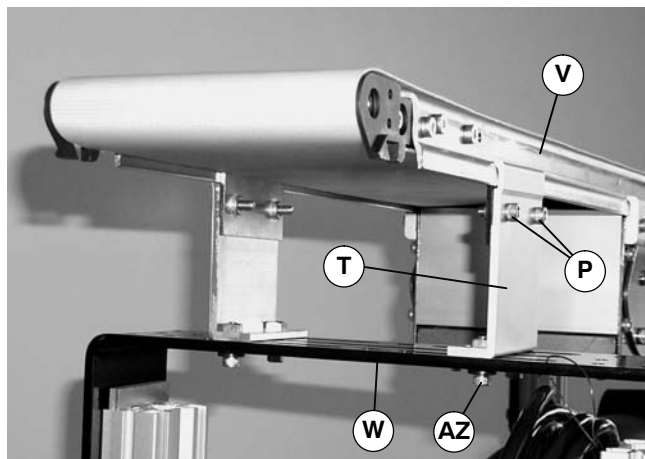

Figure 28
12. Loosen two mounting plate screws (P of Figure 28). Remove two screws, hard washers and square nuts (AZ). Slide stand mounting bracket (T) off stand (W) and remove from conveyor (V).
15. After belt is removed, secure conveyor with mounting plate(s) and stand mounting bracket(s) (T of Figure 28) and mounting hardware (AZ).
6. Loosen two mounting plate screws (P of Figure 28). Remove two screws, hard washers and square nuts (AZ). Slide stand mounting bracket (T) off stand (W) and remove from conveyor (V).